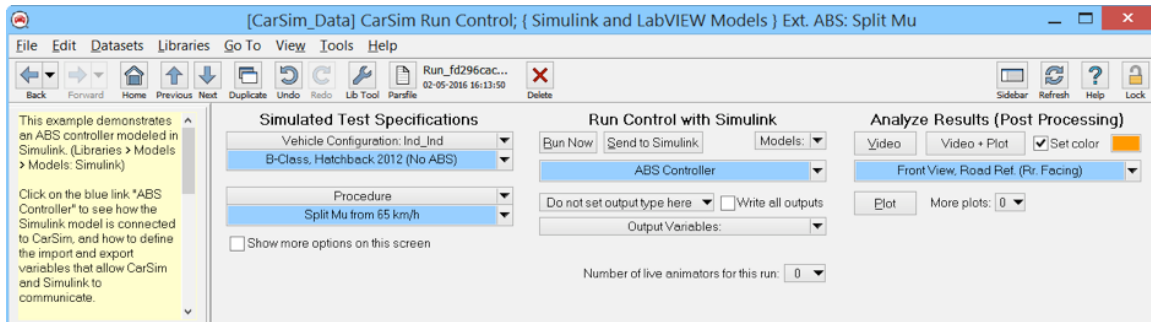

Figure 1. Run Control screen for ABS test on a split-mu surface.
1. Navigate to the existing **Run Control** dataset for the Simulink ABS Example in the category **Simulink and LabVIEW Models** (Figure 1).